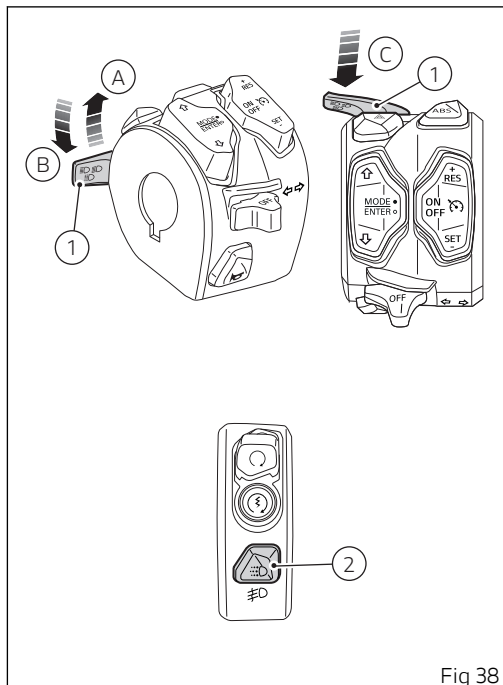

Fig 38
When the DRL are set to "Auto" mode, the corresponding warning light (16, Fig 60) will turn on. By pressing button (2, Fig 38) DRL are turned off; by pressing again button (2, Fig 38) DRL turn on with control strategy set to "Manual".
If DRL have been set in "Manual" mode (see page 212), to turn off or on the DRL, use button (2, Fig 38). When the DRL are set to "Manual" mode, the corresponding warning light (17, Fig 60) will turn on.
- if DRL are present, press and hold button (2, Fig 38) for a long time;
- if DRL are not present, press button (2, Fig 38).